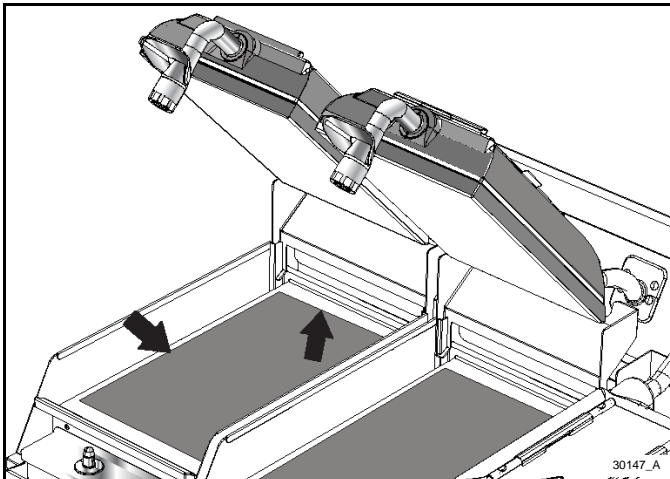

Figure-134
43. Install the lower release sheets. See Figure-134.